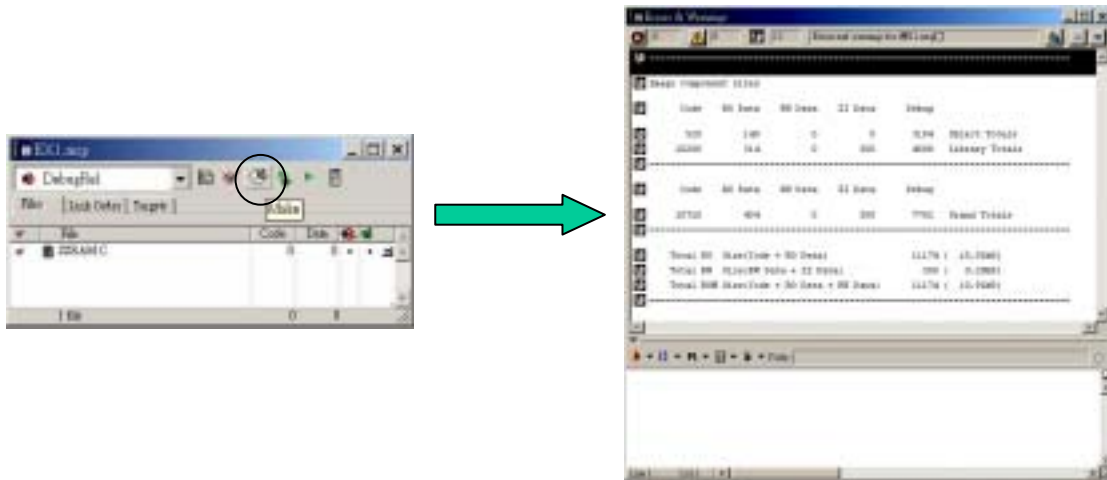

Figure 5 Make the project
- (1) A compiling and linking status windows would appear to indicate making progress
- (2) After finishing compiling and linking, a result message windows would appear (Figure 5). Check for errors and warnings.